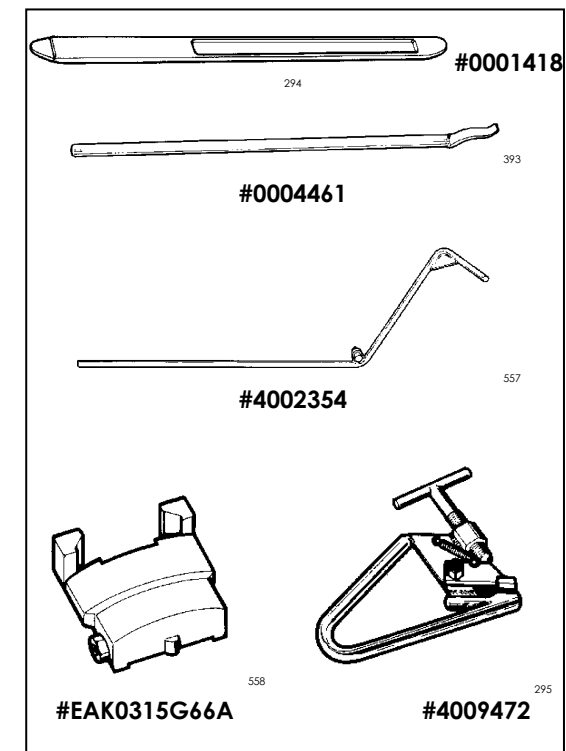

Fig.3
1.7 STANDARD ACCESSORIES (Fig.3)
1.7 ACCESSOIRES D'ORIGINE (Fig.3)
1.7 SERIENZUBEHÖR (Abb.3)